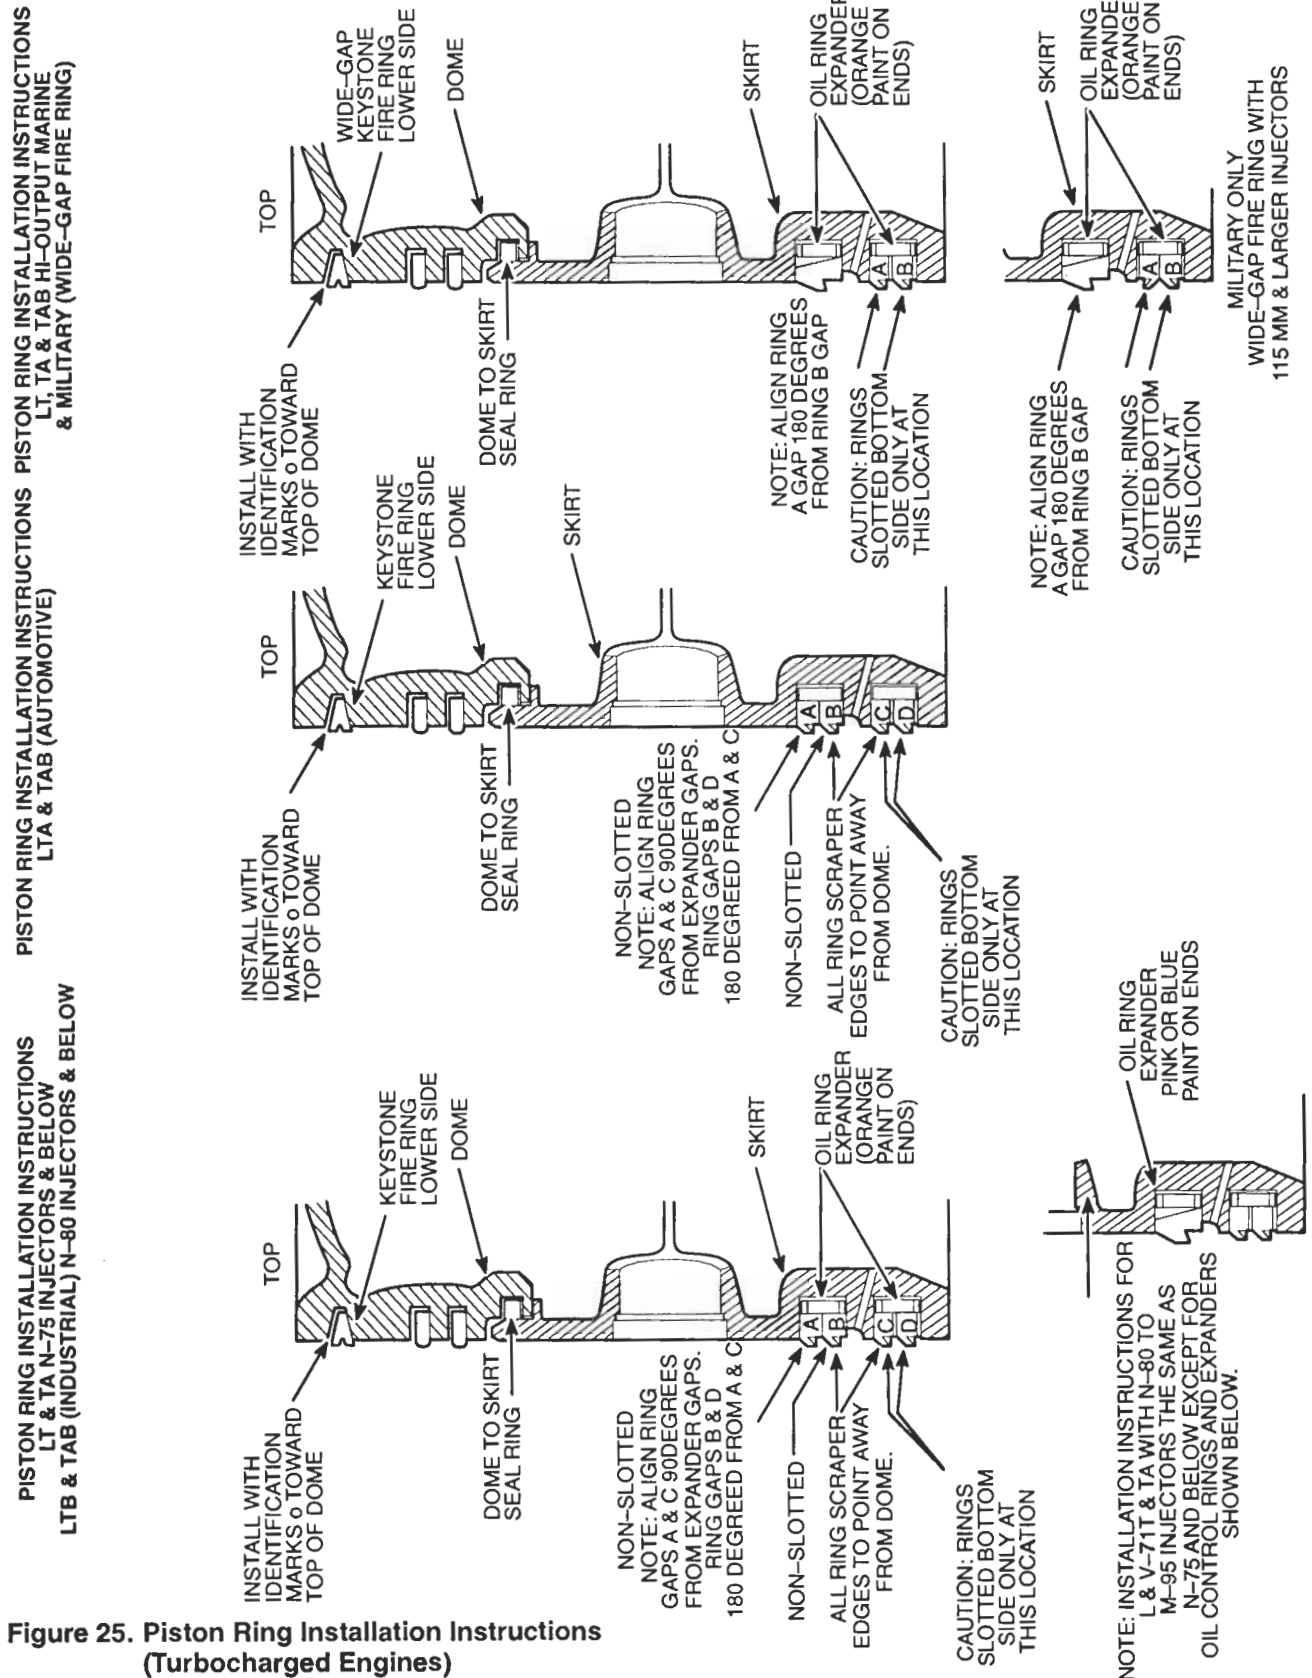

Figure 25. Piston Ring Installation Instructions (Turbocharged Engines)
1. Install the ring expanders (Figure 24. and Figure 25.) in the oil control ring grooves in the piston skirt. When installing the oil control rings, use care to prevent overlapping the ends of ring expanders. An overlapped expander will cause the oil ring to protrude beyond allowable limits and will result in breakage when the piston is inserted in the ring compressor during installation in the cylinder liner. Do not cut or grind the ends of the expanders to prevent overlapping. Cutting or grinding the ends will decrease the expanding force on the oil control rings and result in high lubricating oil consumption. When peripheral abutment type ring expanders are used, install them with the legs of the free ends toward the top of the piston. With the free ends pointing up, a noticeable resistance will be encountered during installation of the piston if the ends of the expander are overlapped and corrective action can be taken before ring breakage occurs.